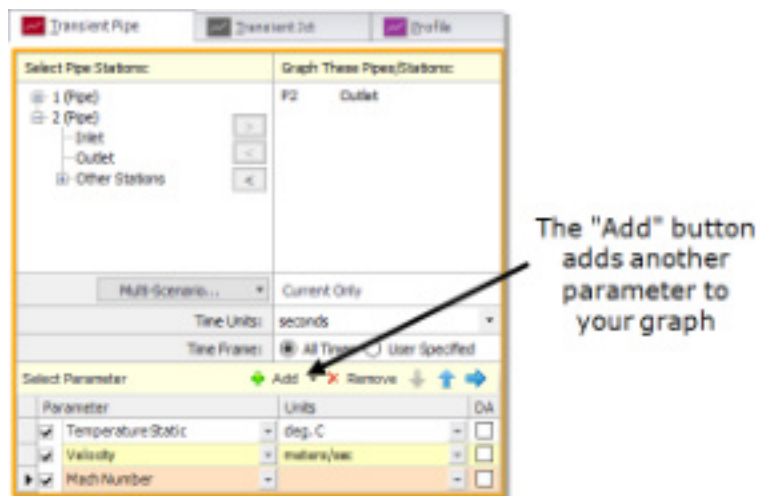

Figure 2.28 The Graph Control tab on the Quick Access Panel allows you to specify the graph parameters you want to graph in the Parameters/Formatting area
- **Click the Add button twice**, which is the green “+” icon next to Select Parameter. Two new rows will appear under the Parameter definition area which will create stacked graphs (Figure 2.28).
Figure 2.28 shows the input in the Parameters/Formatting area on the Quick Access Panel.